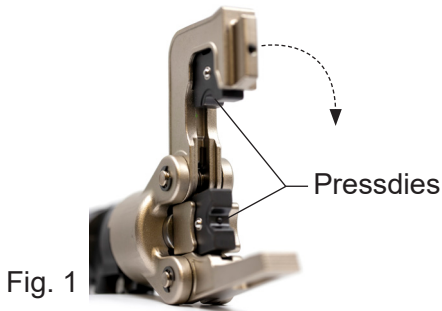

Fig. 1
1. Select the correct combination of dies. Open the hinged jaw, set the positioning screw, picture 3, in correct position, and insert the die set into the presshead. Close Jaw clasp 4, see fig. 1.